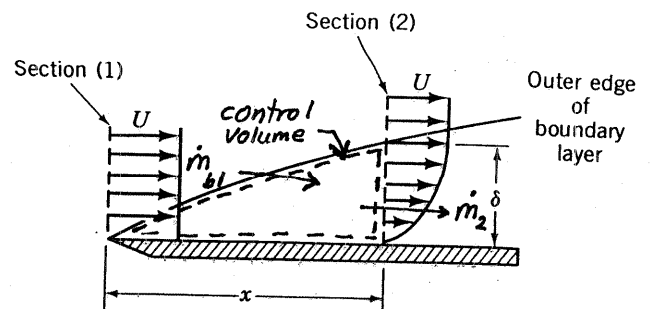

FIGURE P5.20
5.20 Flow of a viscous fluid over a flat plate surface results in the development of a region of reduced velocity adjacent to the wetted surface as depicted in Fig. P5.20. This region of reduced flow is called a boundary layer. At the leading edge of the plate, the velocity profile may be considered uniformly distributed with a value U . All along the outer edge of the boundary layer, the fluid velocity component parallel to the plate surface is also U . If the x direction velocity profile at section (2) is